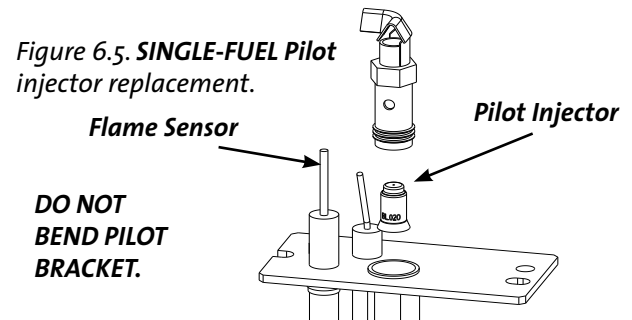

Figure 6.5. **SINGLE-FUEL** Pilot injector replacement.
6.5. CHANGE THE SINGLE-FUEL PILOT ORIFICE: Fig. 6.5.